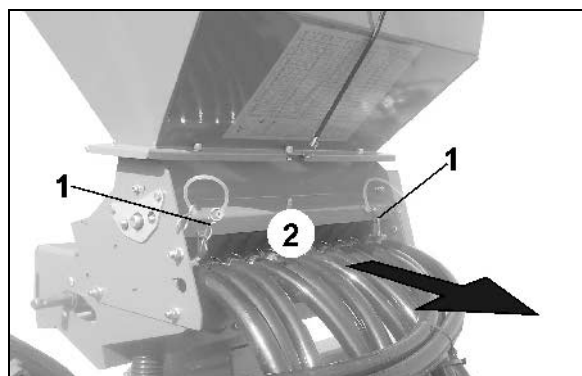

Fig. 38
1. Pull out both lynch pins (Fig. 38/1).
2. pull out the metering unit (Fig. 38/2) to the rear until its stop